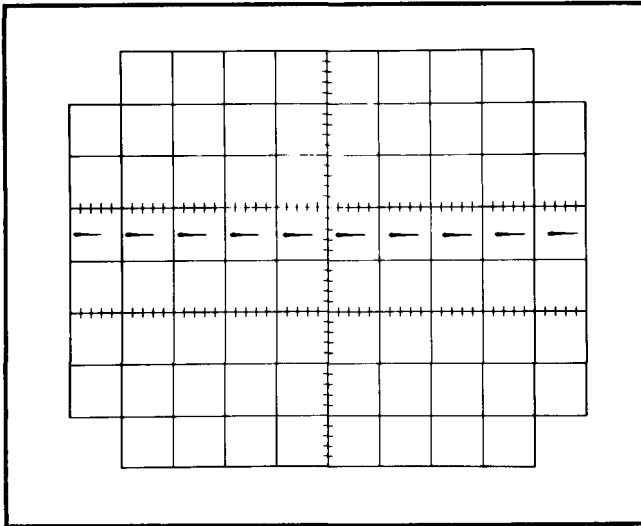

Fig. 6-56. Typical display, intensity modulation (Z Axis Operation).
- Check—Upper Beam CRT display for noticeable intensity modulation (see Fig. 6-56). (INTENSITY setting may have to be reduced to view trace modulation.)